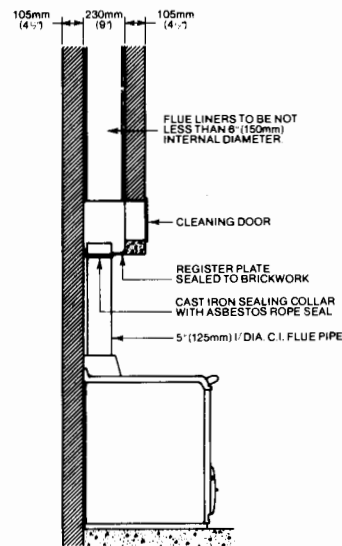

FIG. 5
1. The chimney flue should be lined and constructed with a non-porous acid resisting material such as socketed kiln-burnt aggregate and high alumina cement or any other British Standard approved liner as specified in the current Building Regulations. Fig. 5.